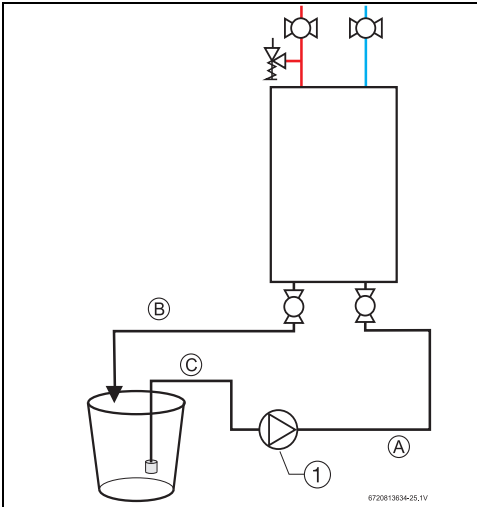

Fig. 53
- ▶ Connect a line (A) from the outlet of the circulating pump (installer supplied) to the inlet water fitting on the water heater (see fig. 53).
- ▶ Using another line (B), connect the water outlet fitting on the water heater. Route the other end of this line into a descaling reservoir.
- ▶ Using a 3rd line (C) from the descaling reservoir, connect to the inlet side of circulating pump. Install a filter on the end of the line in the descaling reservoir.